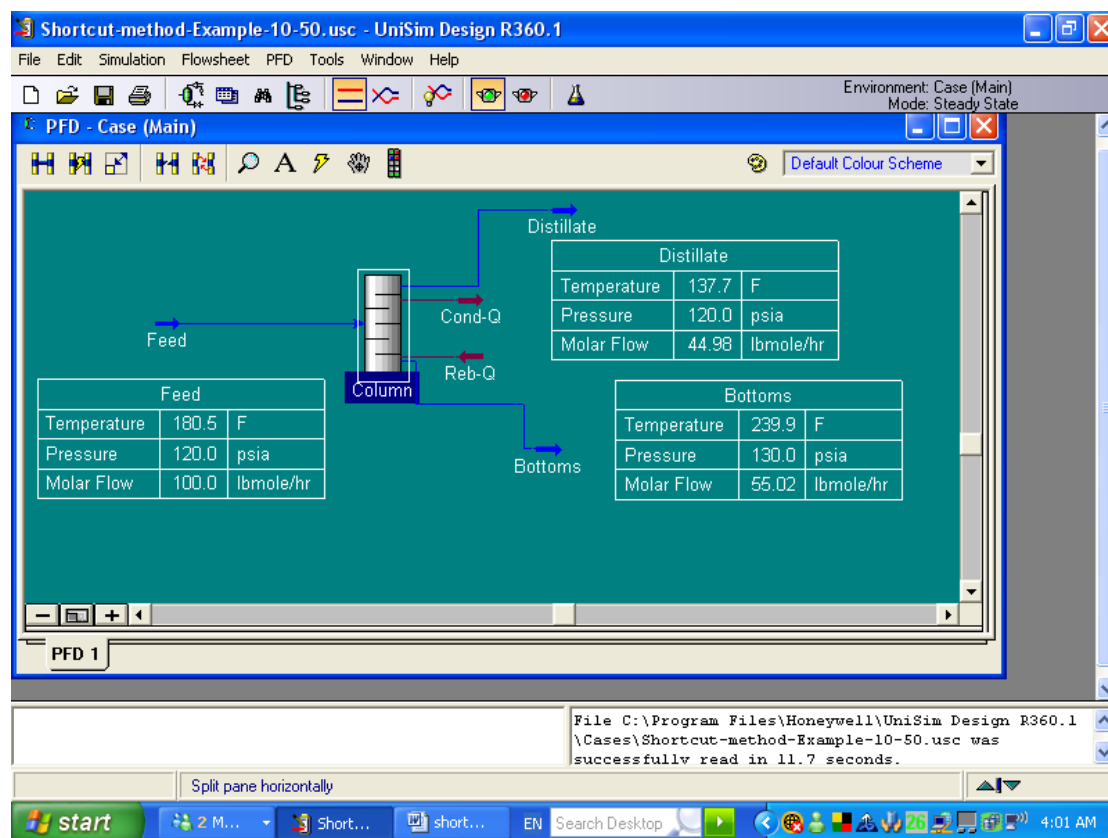

Figure K-21. Snapshot of PFD window showing the shortcut method simulation results.
Step21. The PFD window shows the results of shortcut simulation with **Feed**, **Distillate** and **Bottoms** and their corresponding values of **Temperature**, **Pressure** and **Molar flow rate** as shown in Figure K-21.